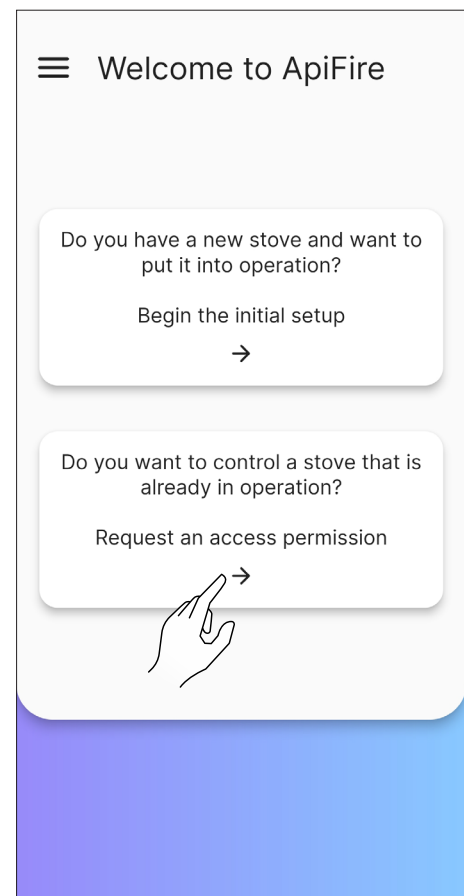

Fig. 8.27
- select "Do you want to control a stove that is already in operation?" (Fig. 8.27)